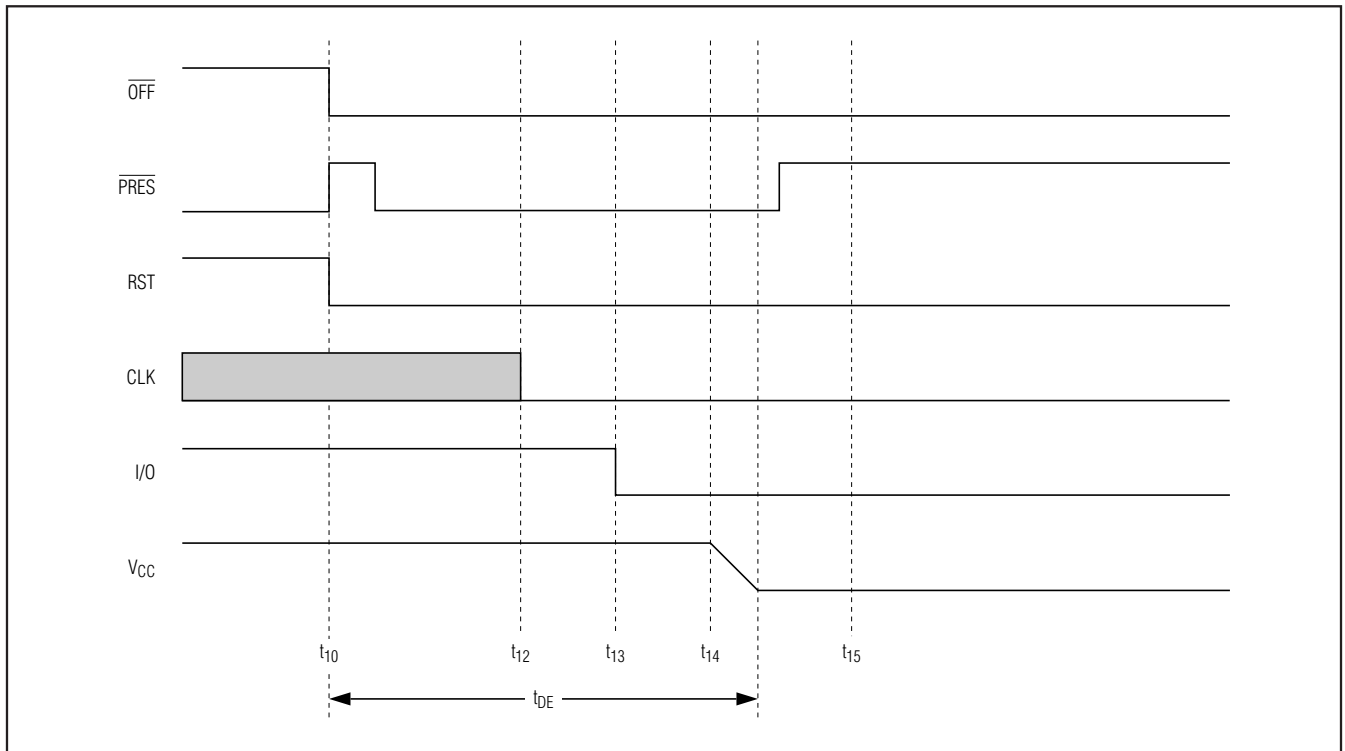

Figure 7. Emergency Deactivation Sequence (Card Extraction)
The DS8024 crystal oscillator runs when the device is powered up. If the crystal oscillator is used or the clock pulse on pin XTAL1 is permanent, the clock pulse is applied to the card at time  $t_4$  (see Figures 7 and 8). If the signal applied to XTAL1 is controlled by the host microcontroller, the clock pulse is applied to the card when it is sent by the system microcontroller (after completion of the activation sequence).
- **Within a Card Session ( $\overline{\text{CMDVCC}}$  Low).** Output  $\overline{\text{OFF}}$  goes low when a fault condition is detected, and an emergency deactivation is performed automatically (Figure 7). When the system controller resets  $\overline{\text{CMDVCC}}$  to high, it may sense the  $\overline{\text{OFF}}$  level again after completing the deactivation sequence. This distinguishes between a card extraction and a hardware problem ( $\overline{\text{OFF}}$  goes high again if a card is present). Depending on the connector's card-present switch (normally closed or normally open) and the mechanical characteristics of the switch, bouncing can occur on the PRES signals at card insertion or withdrawal.